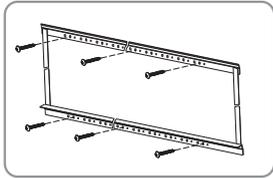

Figure 25
- a. Woody wall installation: Follow the screen installation step 3 and fix the $\phi 5 \times 40$ mm tapping screws to the holes in the top and down installation bars, three screws on each bar. (Figure 25)